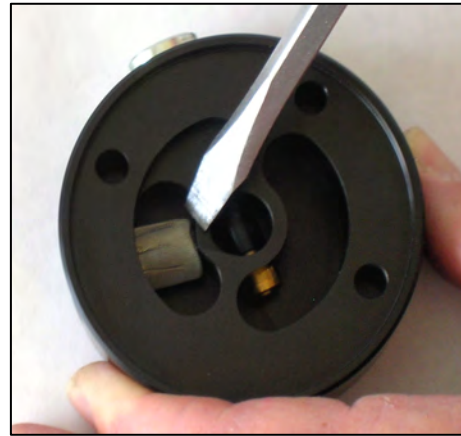

Figure 3
5. Remove the screen filter from the "IN" side of the pump by pushing it out with a flat tip screwdriver. **(Figure 3)**